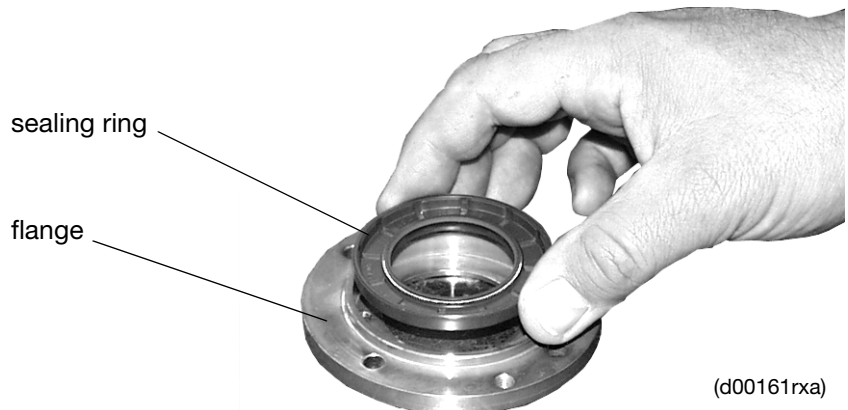

Fig. 6: Flange and sealing ring (exemplary picture)
- take the O-ring (2) and the sealing ring (4) out
- replace the O-ring (2) and the sealing ring (4); see fig. 6 for details
- cover the key groove (6) in the shaft prior to the flange re-installation in order to avoid any damage of the new sealing ring
- push the flange carefully over the shaft (5) and fasten the screws (1) crosswise; tightening torque for screws (1) = 23 Nm (17 ft. lbs)